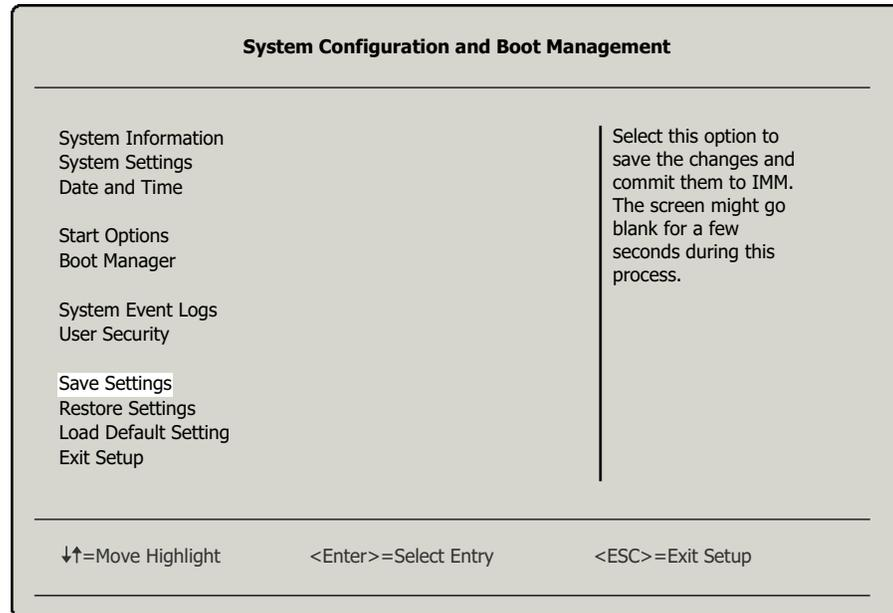

Figure 5-6 Save settings and exit the setup
- At the UEFI main menu (Figure 5-6), select **Save Settings**, and restart the blade server.